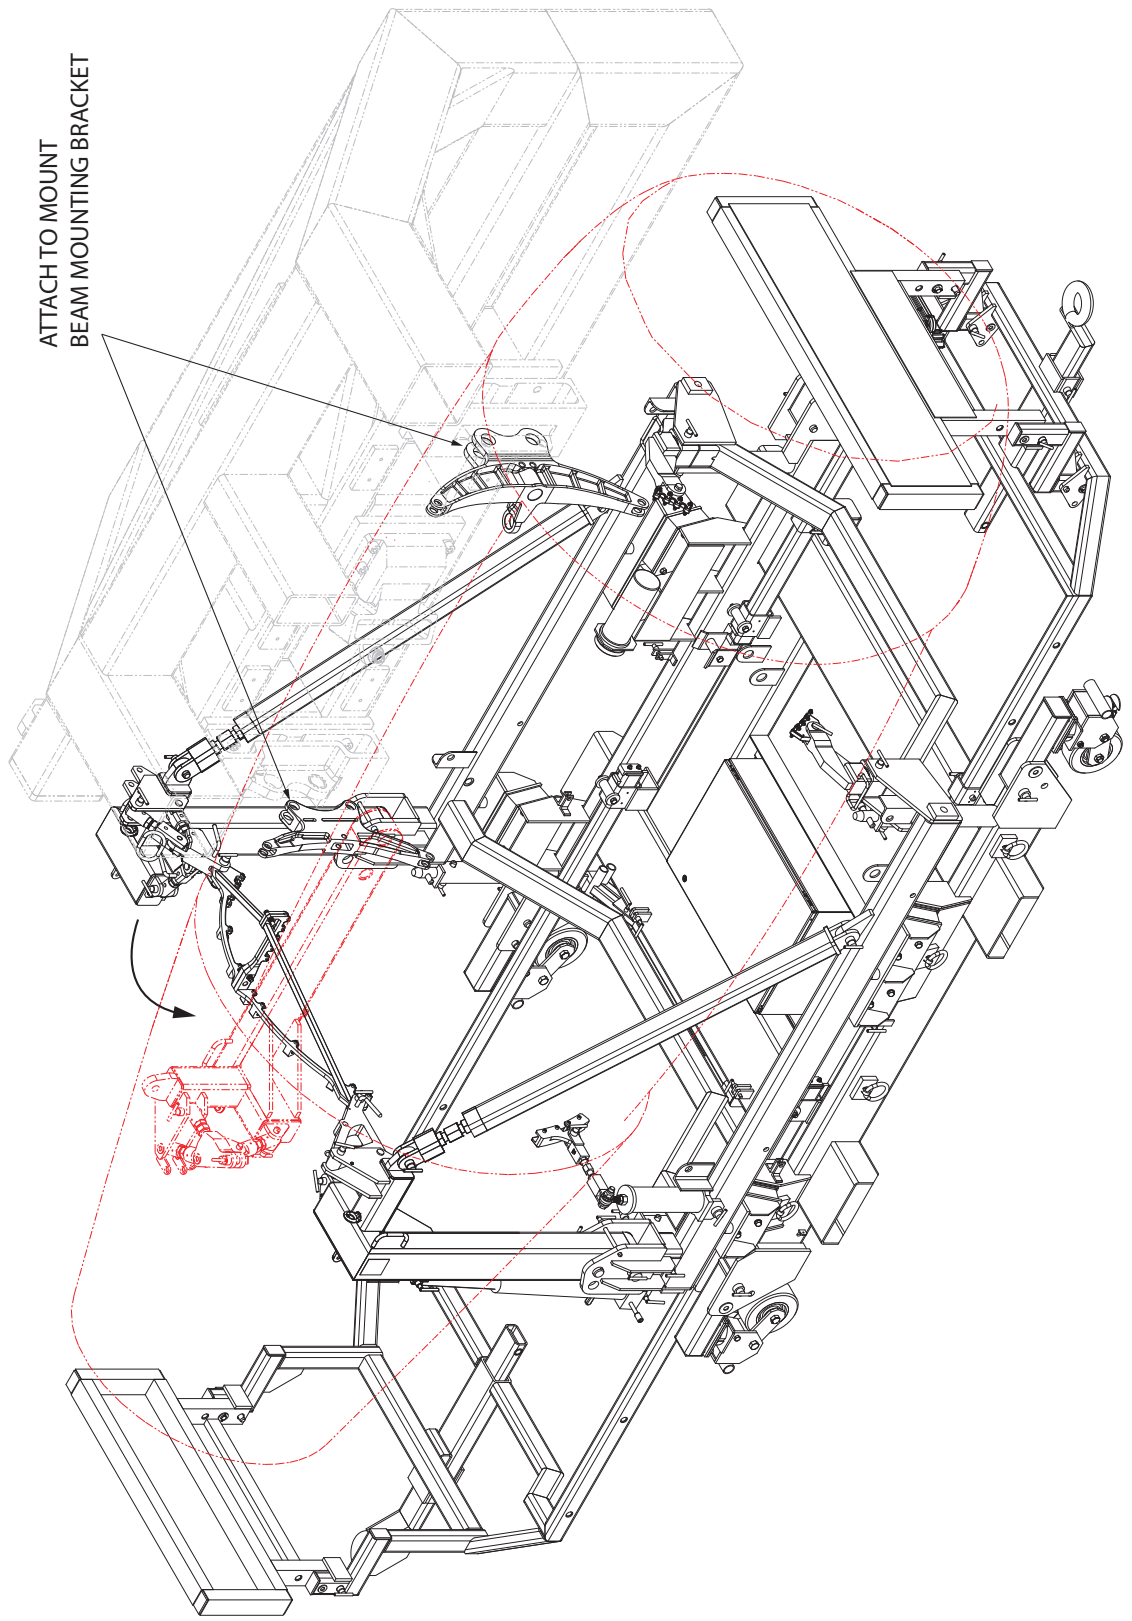

Figure 5.3-1
5.3 Engine and Stand Installation onto Mount Beam (Figure 5.3-1)